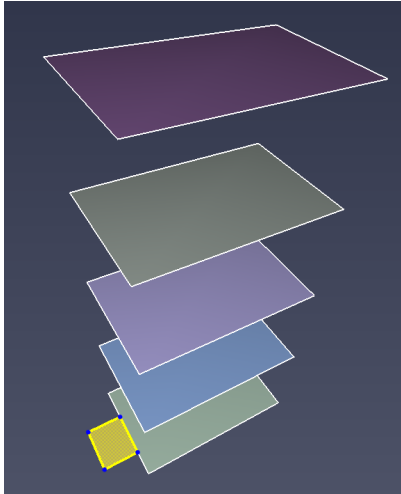

Figure 65. Draw elevator room geometry
1. Draw a room that defines the shape of the elevator, preferably on the discharge floor, see Figure 65.